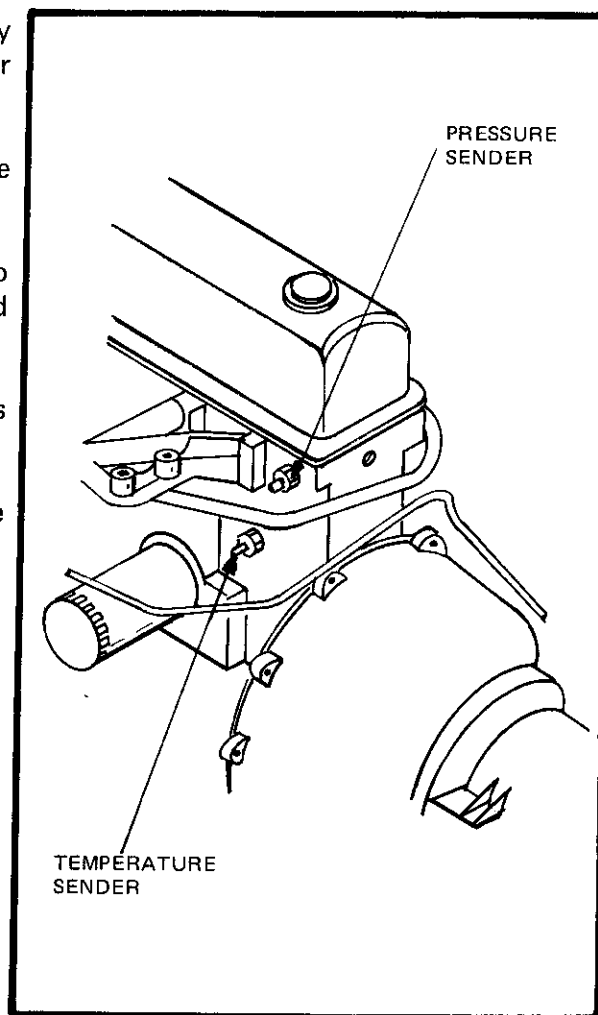

Figure 17
- ☐ **SENDER INSTALLATION** - If using our gauges or other gauges requiring different senders remove the Ford senders from the engine and replace them with the ones supplied with your gauges. The pressure sender is installed in the cylinder head while the temperature sender is installed beneath it in the block. (Figure 17)